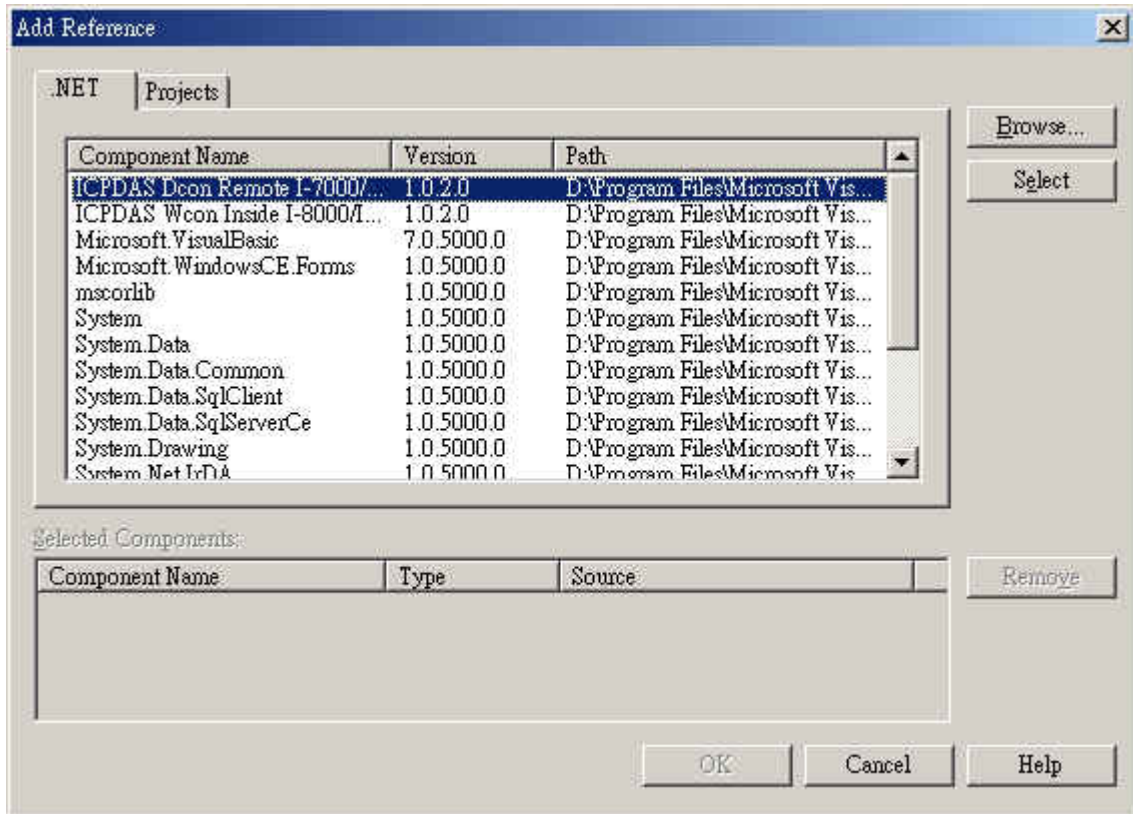

Fig.3-4
1. Open the "Add Reference" dialog by choosing **Project Add Reference**(see Figure 3-4)